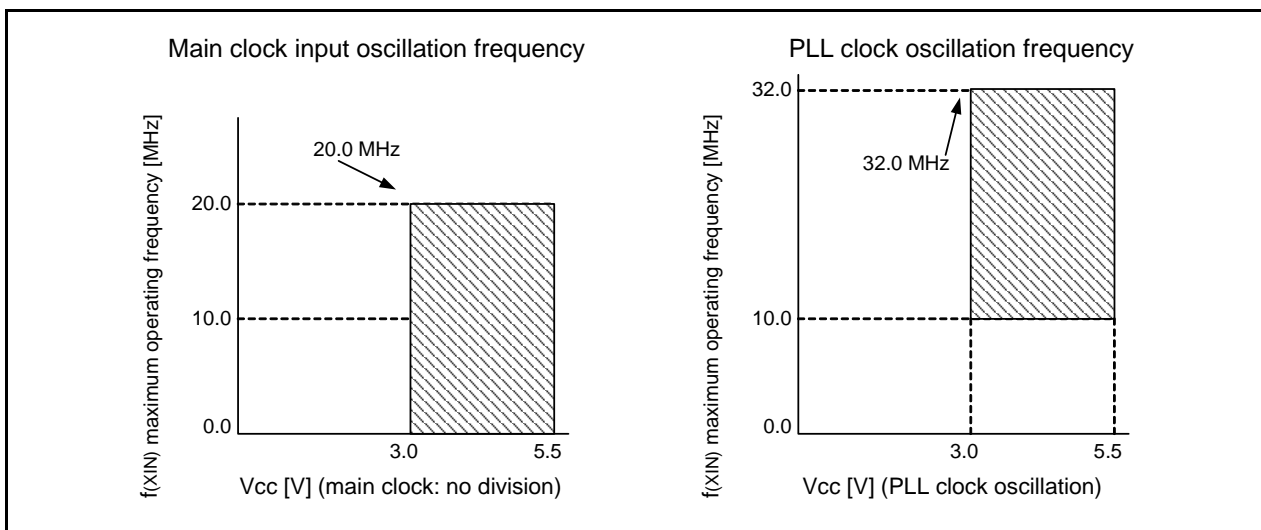

Figure 27.1 Main Clock Input Oscillation Frequency, PLL Clock Oscillation Frequency
- Refer to Figure 27.1 "Main Clock Input Oscillation Frequency, PLL Clock Oscillation Frequency" for the relationship between main clock oscillation frequency/PLL clock oscillation frequency and supply voltage.